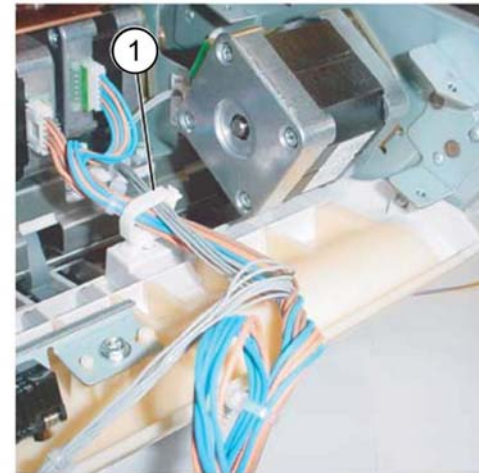

Figure 3 Harness release
9. Release the harness from the clamp, **Figure 3**.